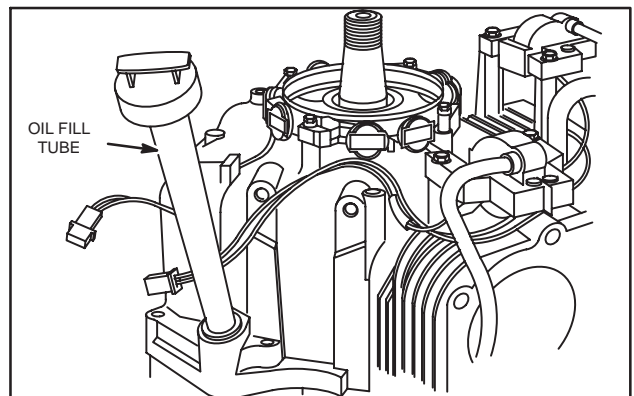

Fig. 9 – Route Wires
4. Assemble oil fill tube to cylinder and crankcase cover, Fig. 9.